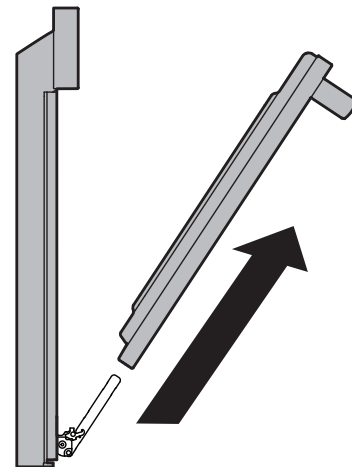

Figure 12: Remove door
4. Pull the bottom of the door toward you while rotating the top of the door toward the appliance to completely disengage the hinge levers (Figure 12).
1. Firmly grasp both sides of oven door along the door sides. Do not use the oven door handle (Figure 12).